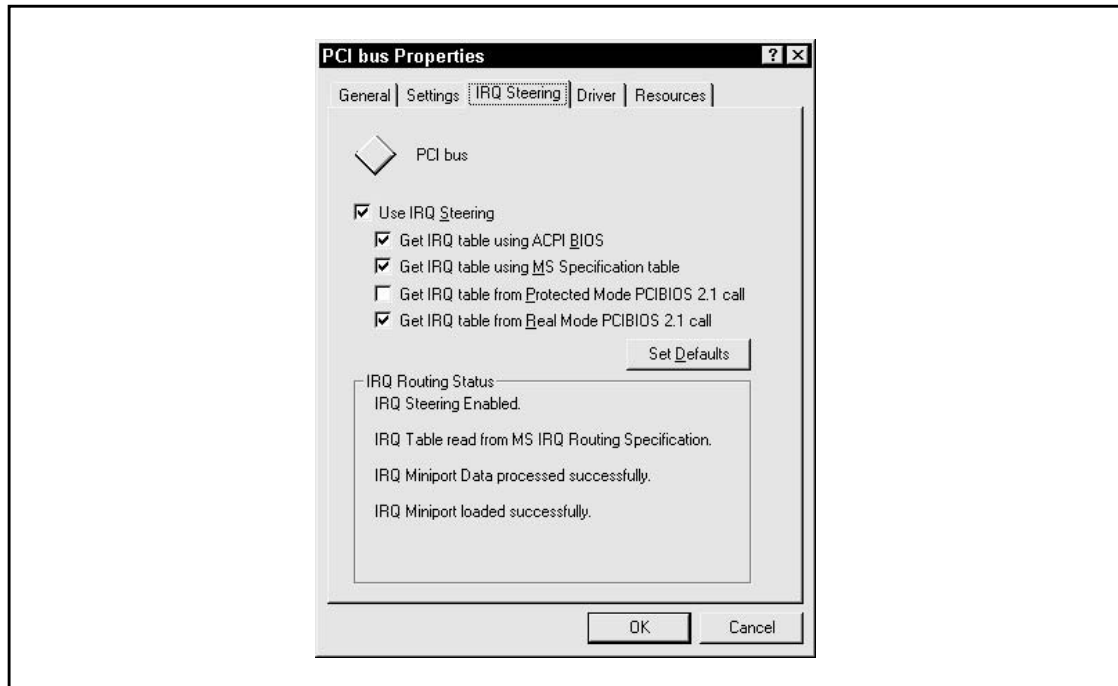

Figure 13-10. The IRQ Steering tab of the PCI bus Properties window
3. Select the IRQ Steering tab to display the window shown in Figure 13-10.